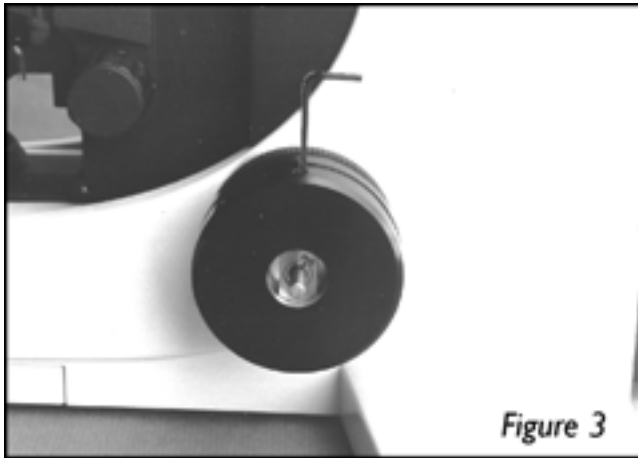

Figure 3
3. Fit the large adapter ring over the brass boss. Note that the orientation of the adapter ring should be such that the grub screw in the adapter ring screws down onto the centre of the radius (curved part of the brass boss) - (figure 3)